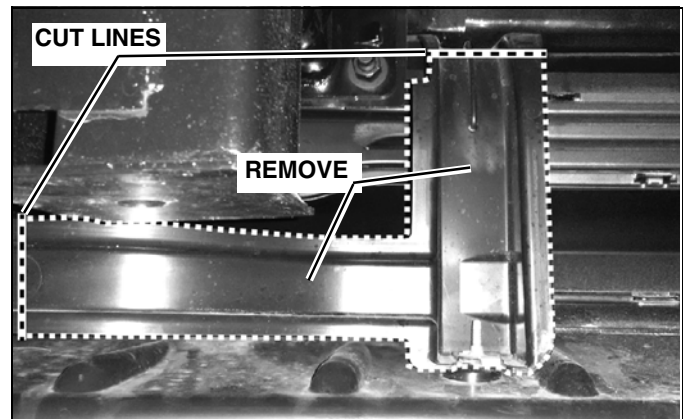

Figure 6
- c. Place (1) 1/2" Plain Washer (#8) over the threads of (1) 1/2"-13 x 1-1/2" Handle Bolt (#7). Secure the washer against the head of the bolt using a rubber band tightly wound around the bolt up against the washer. This will prevent the washer from falling off the bolt as it is inserted into the truck frame. Insert items (#6 & 8) into the truck frame, through the front drilled hole in the side of the frame, and item (#3). Secure loosely using (1) 1/2"-13 Nylock Nut (#6).
- e. Place (1) 1/2" Plain Washer (#8) over the threads of (1) 1/2"-13 x 1-1/2" Handle Bolt (#7). Secure the washer against the head of the bolt using a rubber band tightly wound around the bolt up against the washer. This will prevent the washer from falling off the bolt as it is inserted into the truck frame. Insert items (#7 & 8) into the truck frame, through the rear drilled hole in the bottom of the frame, and item (#3). Secure loosely using (1) 1/2" Plain Washer (#8) and (1) 1/2"-13 Nylock Nut (#6).
9. Attach the Vehicle Center Member (#1) to the Side Weldments, DS (#2) and PS (#3). Insert (4) Spacers (#4), 2 per side, as shown on the Part List. Secure using (8) 1/2"-13 x 2" Cap Screws (#12), (2) 1/2" Lock Washers (#9) in the threaded holes and (6) 1/2" Nylock Nuts (#6).
11. Reinstall the bumper. If the bumper has extra mount points for supporting the lower valance as seen in Figure 6, cut and remove where specified to prevent interference with the Vehicle Mount Kit first.